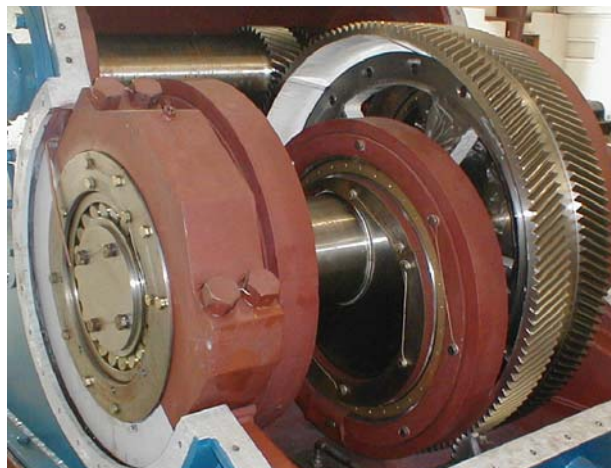

Figure 5-2 Crankshaft Assembly
3. Mark and remove right and left crankshaft bearing (main) retaining rings (each retaining ring is secured by 16 capscrews) (Figure 5-2, 5-3)
1. Remove cap screws (4) from each crankshaft bearing (main) retainer plates (figures 5-2, 5-7)
2. Heat Main bearings and use a hydraulic puller pulling on spacer to remove crankshaft (Figure 5-2)
1. Remove the cap screws that secure the internal retaining ring to the connecting rod (Figures 5-2, 5-8)
- 3 Remove the external retaining ring from the connecting rod (Figure 5-2, 5-8).
1. Install eccentric outer race and roller bearing in each connecting rod (Figure 5-2)
2. Secure bearing by installing external retaining ring on each connecting rod. (Figures 5-2, 5-8).
2. Install bearing in fixed bearing carriage on end of crankshaft nearest bull gear (Figure 5-2)
3. Install bearing in floating bearing carriage on end of crankshaft farthest from bull gear (Figure 5-2)
4. Install retainer plates on ends of crankshaft (Figures 5-2, 5-7).